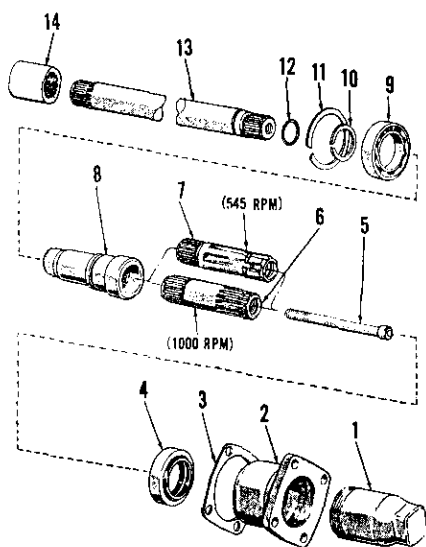
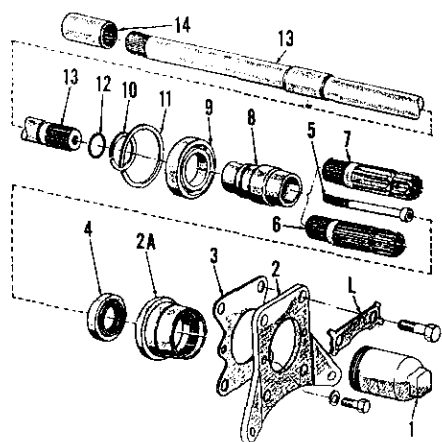

Fig. 355—Exploded view of PTO output shaft assembly used with Select-O-Speed transmission with 2-speed PTO clutch on models 2000 and 3000.
Fig. 356—Exploded view of PTO output shaft assembly for model 4000 tractor with Select-O-Speed transmission with 2-speed PTO option.
325. R&R AND OVERHAUL OUTPUT SHAFT ASSEMBLY. To remove the output shaft assembly, first drain lubricant from rear axle center housing, then proceed as follows: On model 4000 (except 4110 L.C.G.), disconnect hydraulic lift lower link sway chains from retainer plate (2—Fig. 356), then unbolt and remove the retainer plate and withdraw output shaft, bearing and retainer assembly
To service 2-speed PTO output shaft assemblies, proceed as follows: Refer to Fig. 355 for models 2000, 3000 and 4110 L.C.G. and to Fig. 356 for other 4000 models. Remove the Allen head cap screw (5) and remove either the 540 RPM or 1000 RPM stub shaft (6 or 7). The output shaft (13) can then be removed from the sleeve (8) and the sealing "O" ring (12) can be renewed at this time. Remove snap ring (11) and press or drive sleeve and bearing from front end of retainer (2 or 2A). Remove